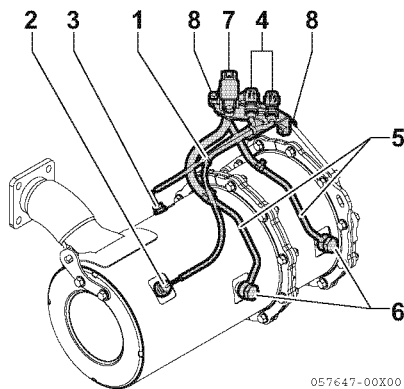

Figure 13-24
Loosen the band (**Figure 13-24, (1)**) that fixes the exhaust harness. From two locations on the exhaust temperature sensor, remove the 17 mm bolt from one location (**Figure 13-24, (2)**) and the 13 mm bolt from the other (**Figure 13-24, (3)**). Leave the exhaust temperature sensor couplers (2 pcs.) (**Figure 13-24, (4)**) mounted on the sensor bracket section.
Remove the M12 pipe joint bolts (2 pcs.) (**Figure 13-24, (6)**) that affix the exhaust pressure pipe (**Figure 13-24, (5)**). Leave the exhaust differential pressure sensor (**Figure 13-24, (7)**) mounted on the sensor bracket section.
Loosen the M8 flange bolts (2 pcs.) (**Figure 13-24, (8)**) and remove the sensor bracket. Leave the exhaust differential pressure sensor and the exhaust temperature sensor coupler attached to the sensor bracket.